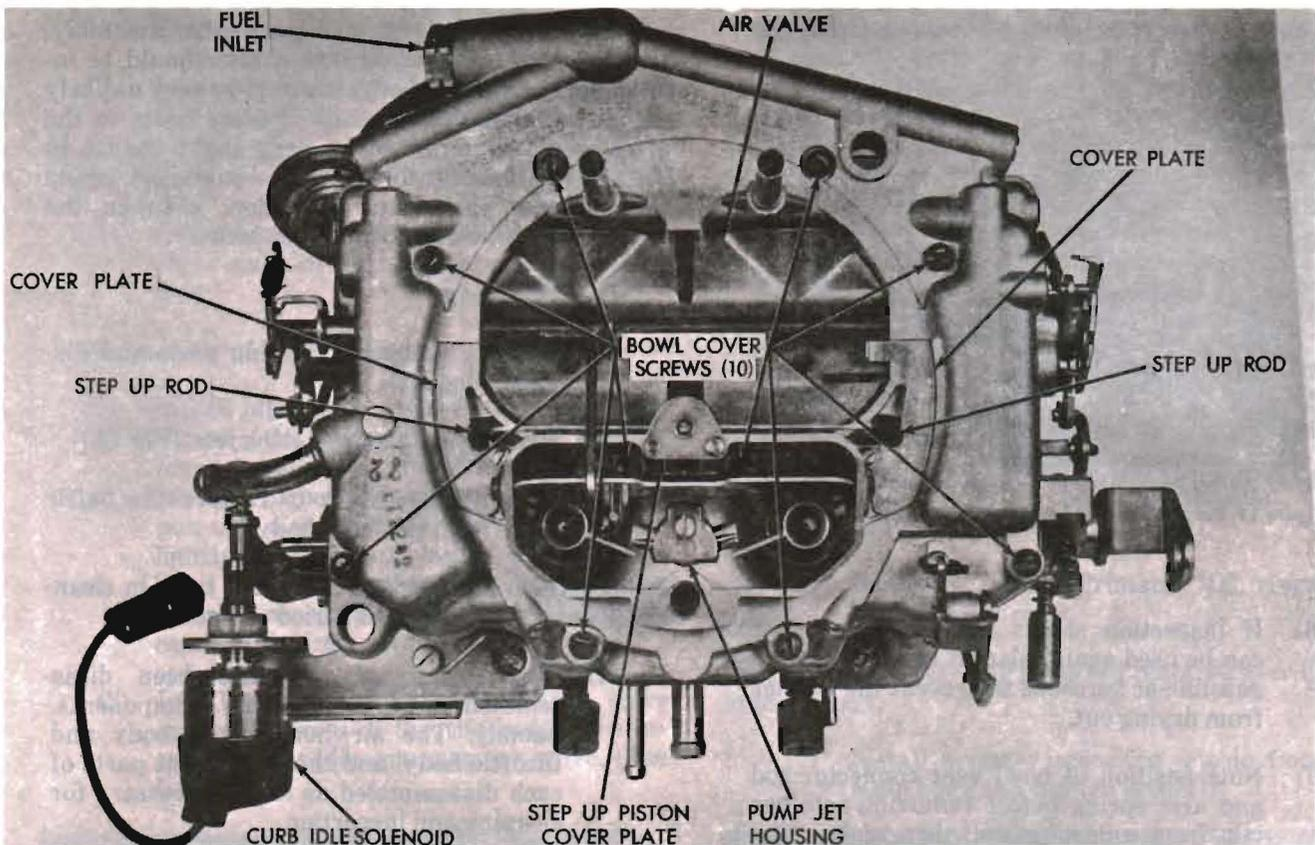

Figure 9. Top View of Carburetor—Slide 2170
- (1) Place carburetor assembly on repair stand (Tool C-3886). The repair stand is used to protect throttle valves from damage and to provide a suitable base for working.
- (2) Remove rod retainers that hold throttle connector rod to accelerator pump arm and throttle lever, then remove rod from carburetor.
- (3) Remove accelerator pump arm screw and disengage it from pump rod "S" link, (leave the "S" link connected to pump rod) then remove the lever.
- (4) Remove the choke countershaft fast idle lever attaching screw while holding lever. Disengage lever from countershaft, then swing the fast-idle connector rod at an arc until it can be disengaged from the fast-idle operating lever.
- (5) Remove rod retainers and washer that holds choke diaphragm connector rod to choke vacuum diaphragm and air valve lever, then remove the lever.
- (6) Remove the rod retainer that holds choke connector rod to choke countershaft, then disengage the rod and swing it at an arc to disengage the choke shaft lever assembly.
- (7) Remove the step-up piston cover plate attaching screw and cover plates, then remove step-up piston and link assembly with step-up rods. Remove the step-up piston spring.
- (8) Remove the pump jet housing screw, housing and gasket. Invert carburetor and remove discharge check needle.
- (9) Remove 10 bowl cover screws. (See figure 9.) (Two of the bowl cover screws are located between choke valve and wall of bowl cover.) Remove the bowl cover and invert it on work bench to protect floats.